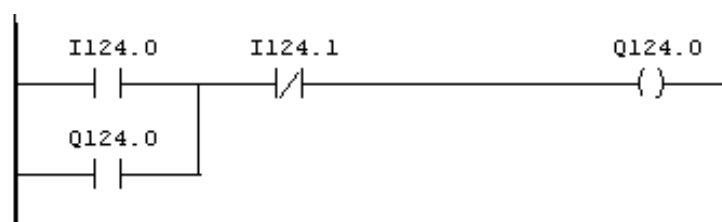

Figure 15. Self-holding circuit
1. Configure ladder diagram for self-holding circuit as shown in Figure 15.